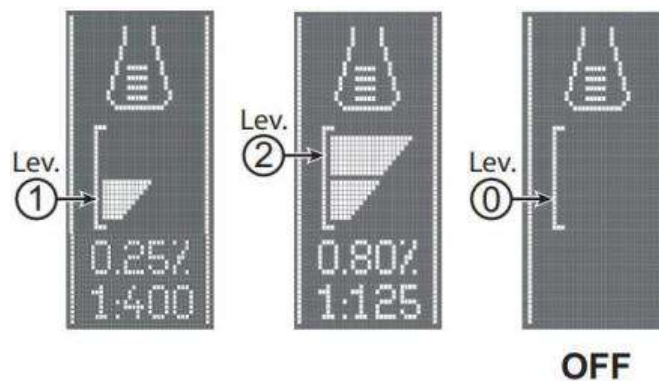

Figure 6
The system for mixing the detergent in the washing water is automatically activated when the brush is running. The percentage of detergent added to the washing water is set to level 1 (Fig. 6). By pressing the switch (58), it is possible to set the percentage level to level 2 or reset it to level 0. The set percentages are shown on the display (60-H)